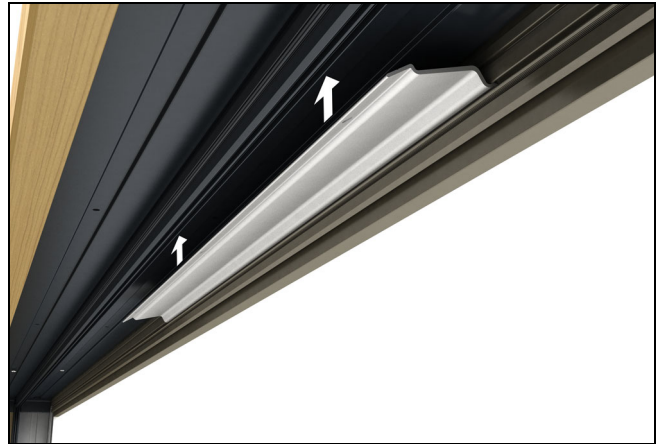

Figure 135
5. Rotate in one structural bracket with pre-drilled holes and install with three #8 x 3" black installation screws. See figure 135.